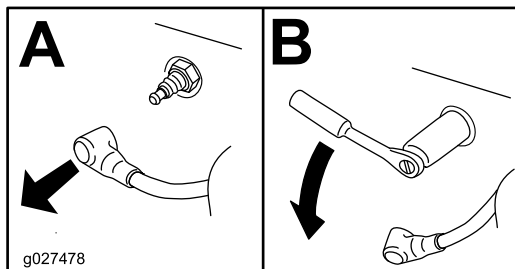

Figure 35
4. Remove the spark plug (Figure 35).